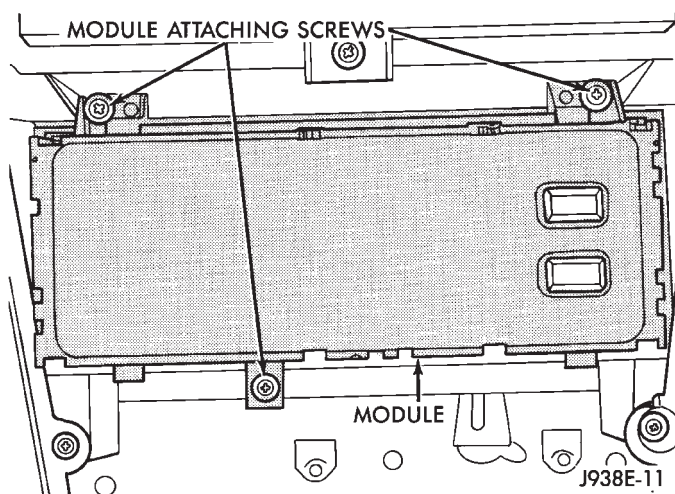

Fig. 2 Module Attaching Screws
- (4) Remove center bezel.
- (5) Remove 3 screws holding VIC (Fig. 2).
- (6) Pull module out far enough to unplug connector. Remove module.